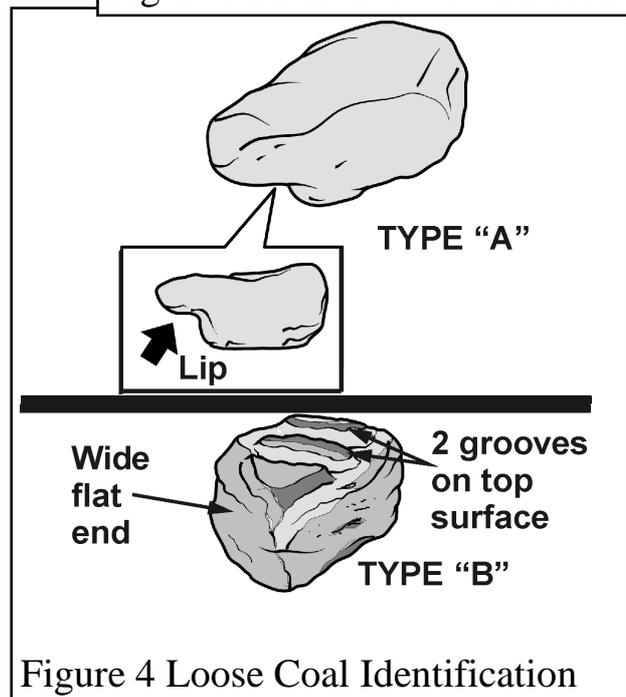

Figure 4 Loose Coal Identification
3. There are two types of loose coals. Type "A" coals have a prominent lip. There are three coals of this type. Type "B" are squarer than type "A" and have two grooves on their top surface. The coals are shown in figure 4. Identify these coals before attempting to fit them.